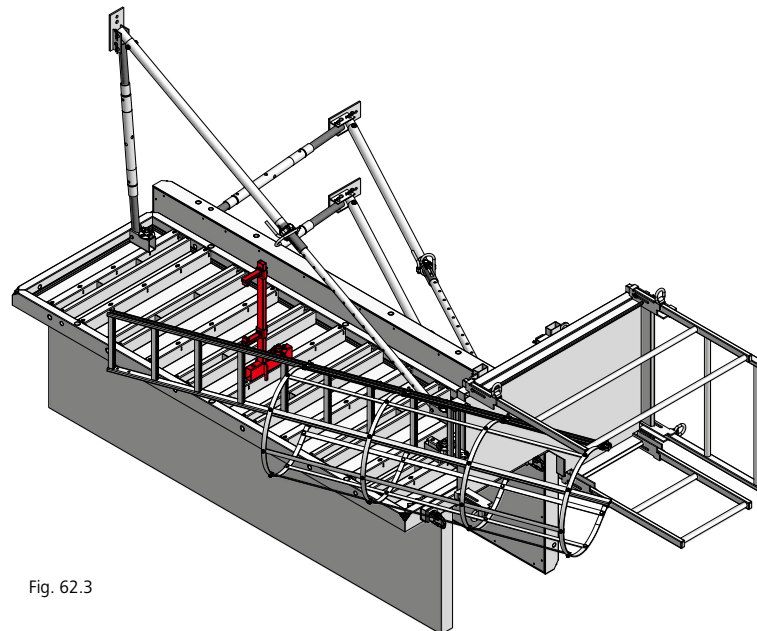

Fig. 62.3
5. Screw the clamping angle firmly to the ladder fixture (Figures 62.3 and 62.5).